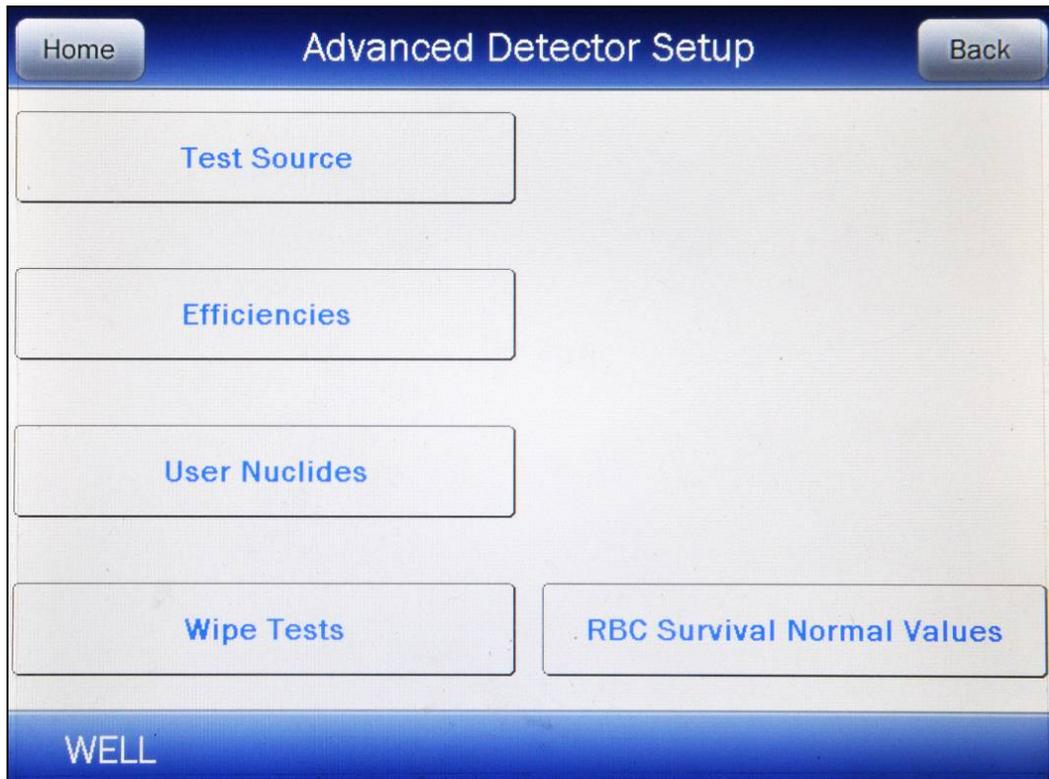
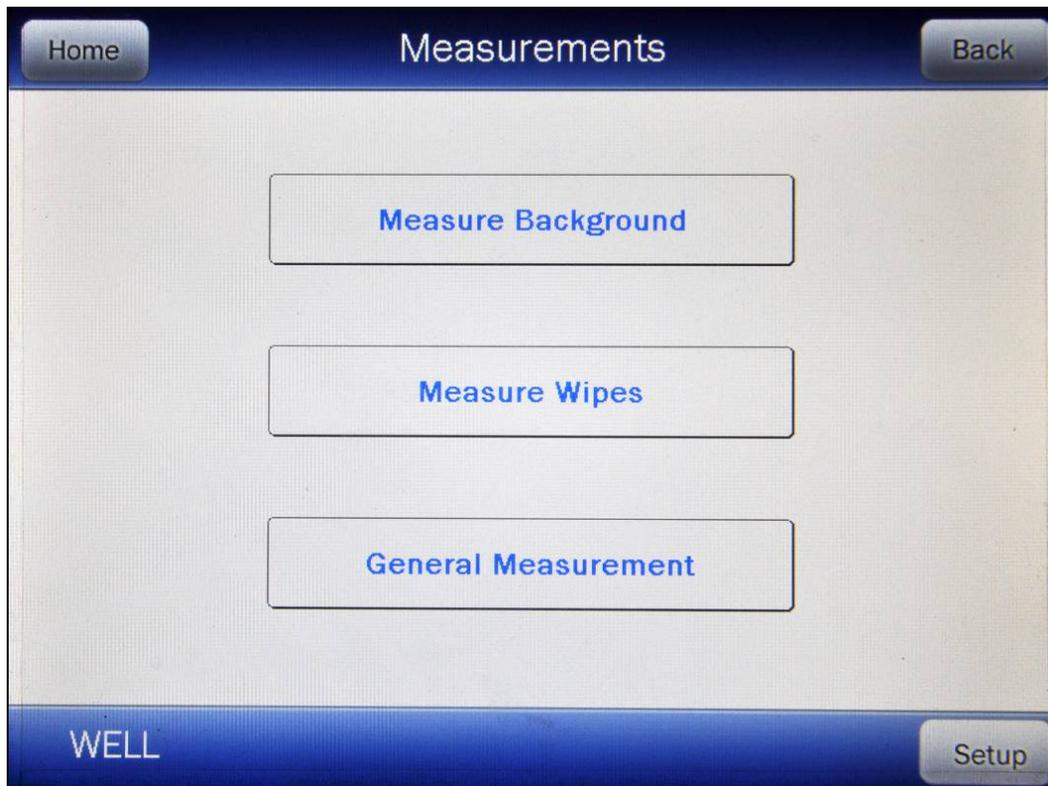

Figure 5-27 Advanced Detector Setup Screen
Figure 5-28 Measurements Screen
- c Touch the **ACCEPT** button. Figure 5-27 Advanced Detector Setup Screen will appear.
- a Touch the **MEASUREMENT** button. Figure 5-28 Measurements Screen will appear.
- touch the **BACK** button – If the setup was accessed via the Measurements screen, Figure 5-28 Measurements Screen will appear; if the setup was accessed from the Main screen, Figure 5-27 Advanced Detector Setup Screen will appear or